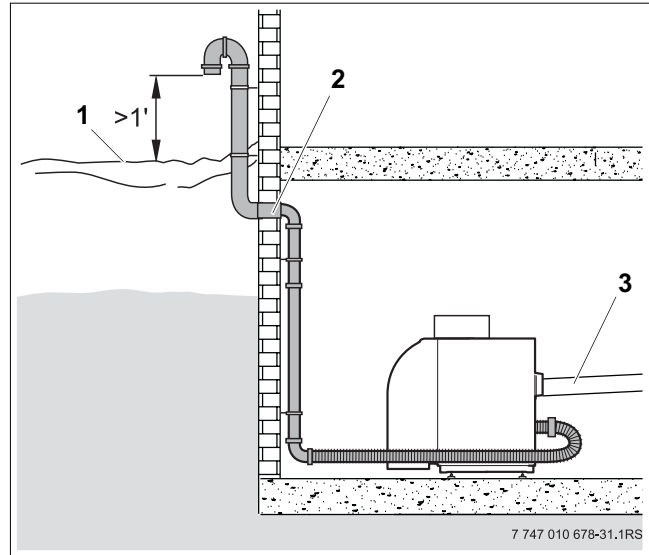

Fig. 21 Outside air intake riser
- An outside air intake riser is permitted, provided it terminates in 2 x 90° elbows facing down (→ Fig. 21).